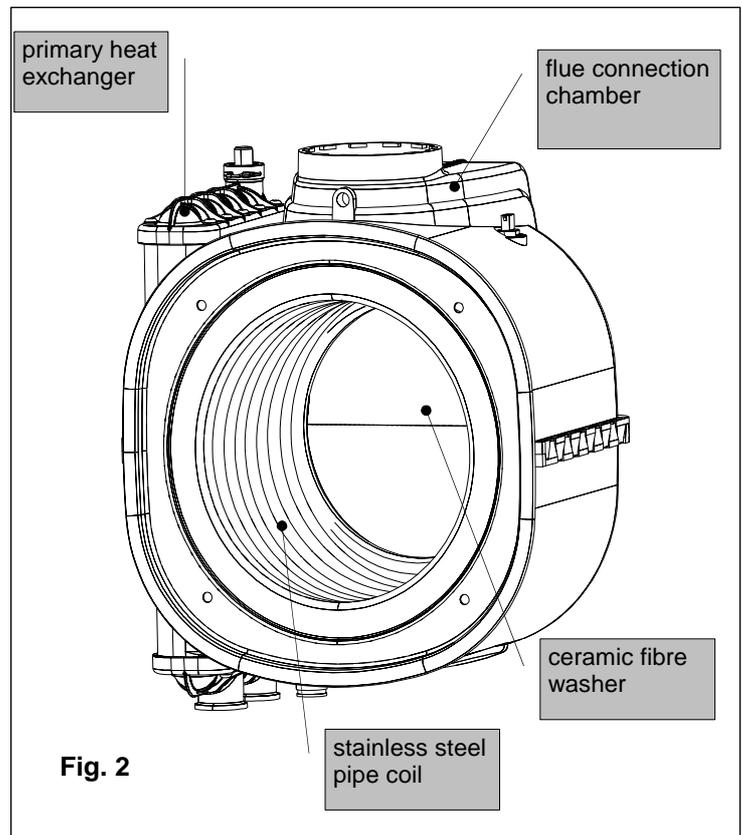

Fig. 2
- Clean the heat exchanger (see fig. 2) using a household detergent for stainless steel, distributing the product on the spirals of the exchanger using a brush. Do not wet the ceramic fibre coating. Wait a few minutes then remove the deposits using a non-metal brush. Then remove the residues under running water;
Gas valve (see fig. 2)